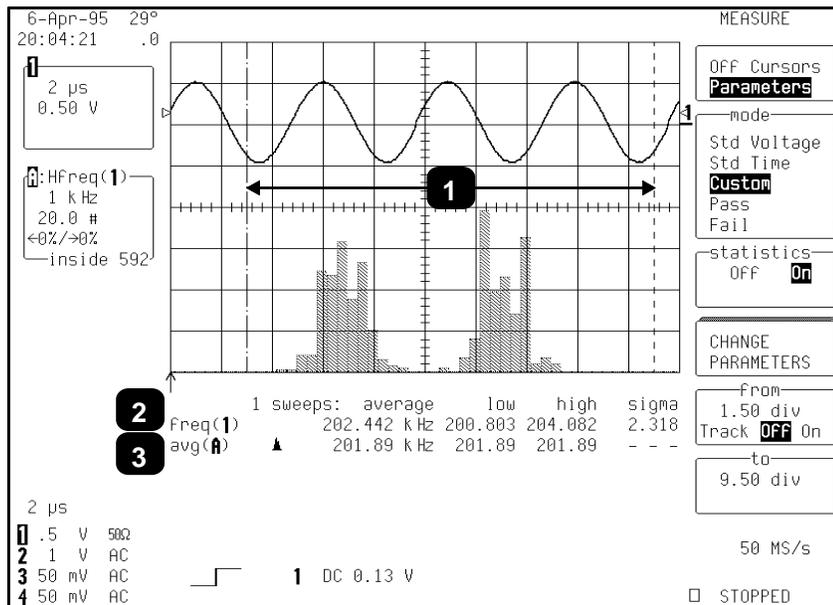

Figure 13-1.
Parameters are used to perform waveform measurements for the section of a waveform lying between the parameter cursors (Figure 13-1, item 1). The position of the parameter cursors is set using the **from** and **to** menus, and controlled by the associated menu knobs. The top trace in the figure below shows a sine wave on which a **freq** parameter measurement (2) is being performed, with a value of 202.442 kHz as the average frequency. The bottom trace shows a histogram of this parameter and a value of 201.89 kHz (3) — the average frequency of the data contained within the parameter cursors.